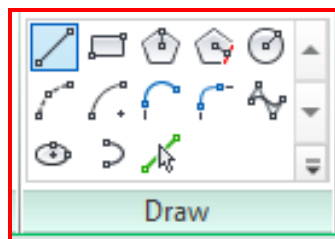

Figure 2.9
2. On the Modify | Create Blend Base Boundary tab, use the **Draw** tools to sketch the base boundary of the blend, for example sketch a square as shown in Figure 2.9.